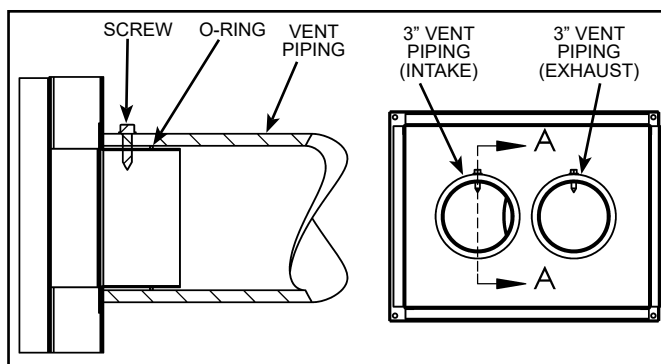

Figure 25.
2. Thoroughly inspect the vent termination for any damage (see Figure 25).
4. Drill 7/64" pilot holes for a #8 screw (see Figure 25). Take care not to damage the O-ring.
5. Secure the vent piping to the air box with screws (see Figure 25).